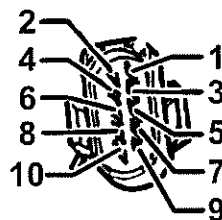

Fig 28 10-pin injection pump connector - plug
72.5 Using a multi-meter measure resistance between contacts 1 + 2 and 2 +3 of the connector (see Fig 28).